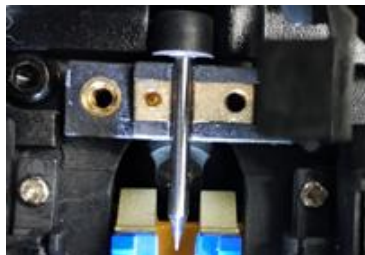

Figure 5.4
3. Take out the old electrode from the electrode holder. (Electrode is fixed on the electrode holder, figure 5.4).